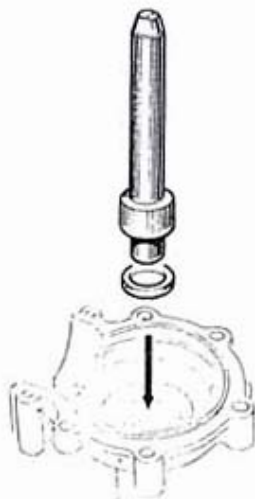

Fig. 3
- Fit a new oil seal with the crankcase seal fitting tool, No. 100010, fig. 3.